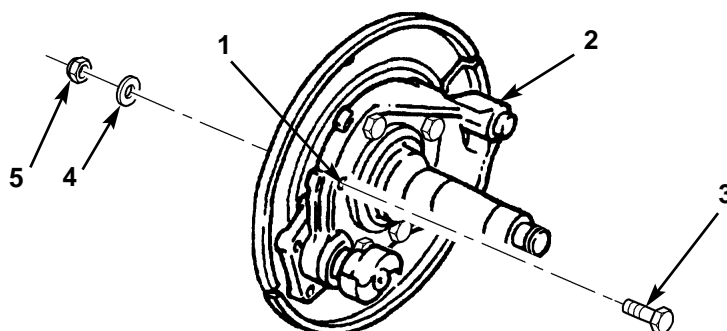

Figure 25. Enlarging Hole in Brake Spider.
15. Remove locknut, (figure 25, item 5), washer (figure 25, item 4), and screw (figure 25, item 3) from front top hole (figure 25, item 1) in spindle and brake spider (figure 25, item 2). Discard locknut (figure 25, item 5), washer (figure 25, item 4), and screw (figure 25, item 3).
16. Using 11/16 in. (17.5 mm) reamer, enlarge front top hole (figure 25, item 1) in spindle and brake spider (figure 25, item 2).